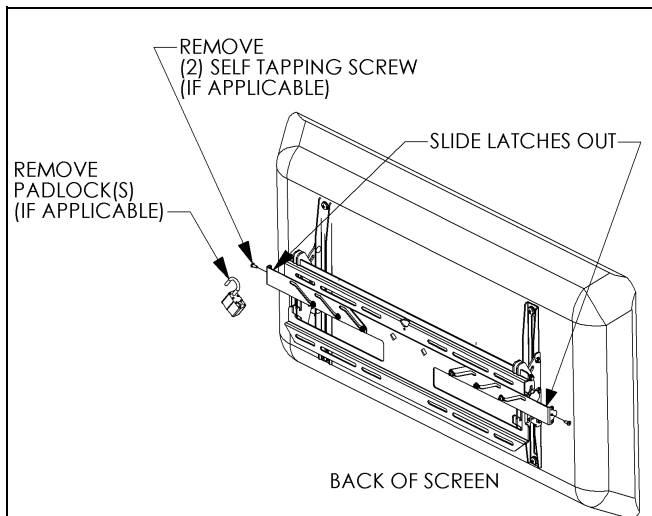

Figure 8
1. If applicable, remove the self tapping screws and/or padlocks from both sides of the wall plate. This hardware provides security. (See Figure 8)
2. Slide the security latches out on both sides to disengage the display from the wall plate. (See Figure 8)